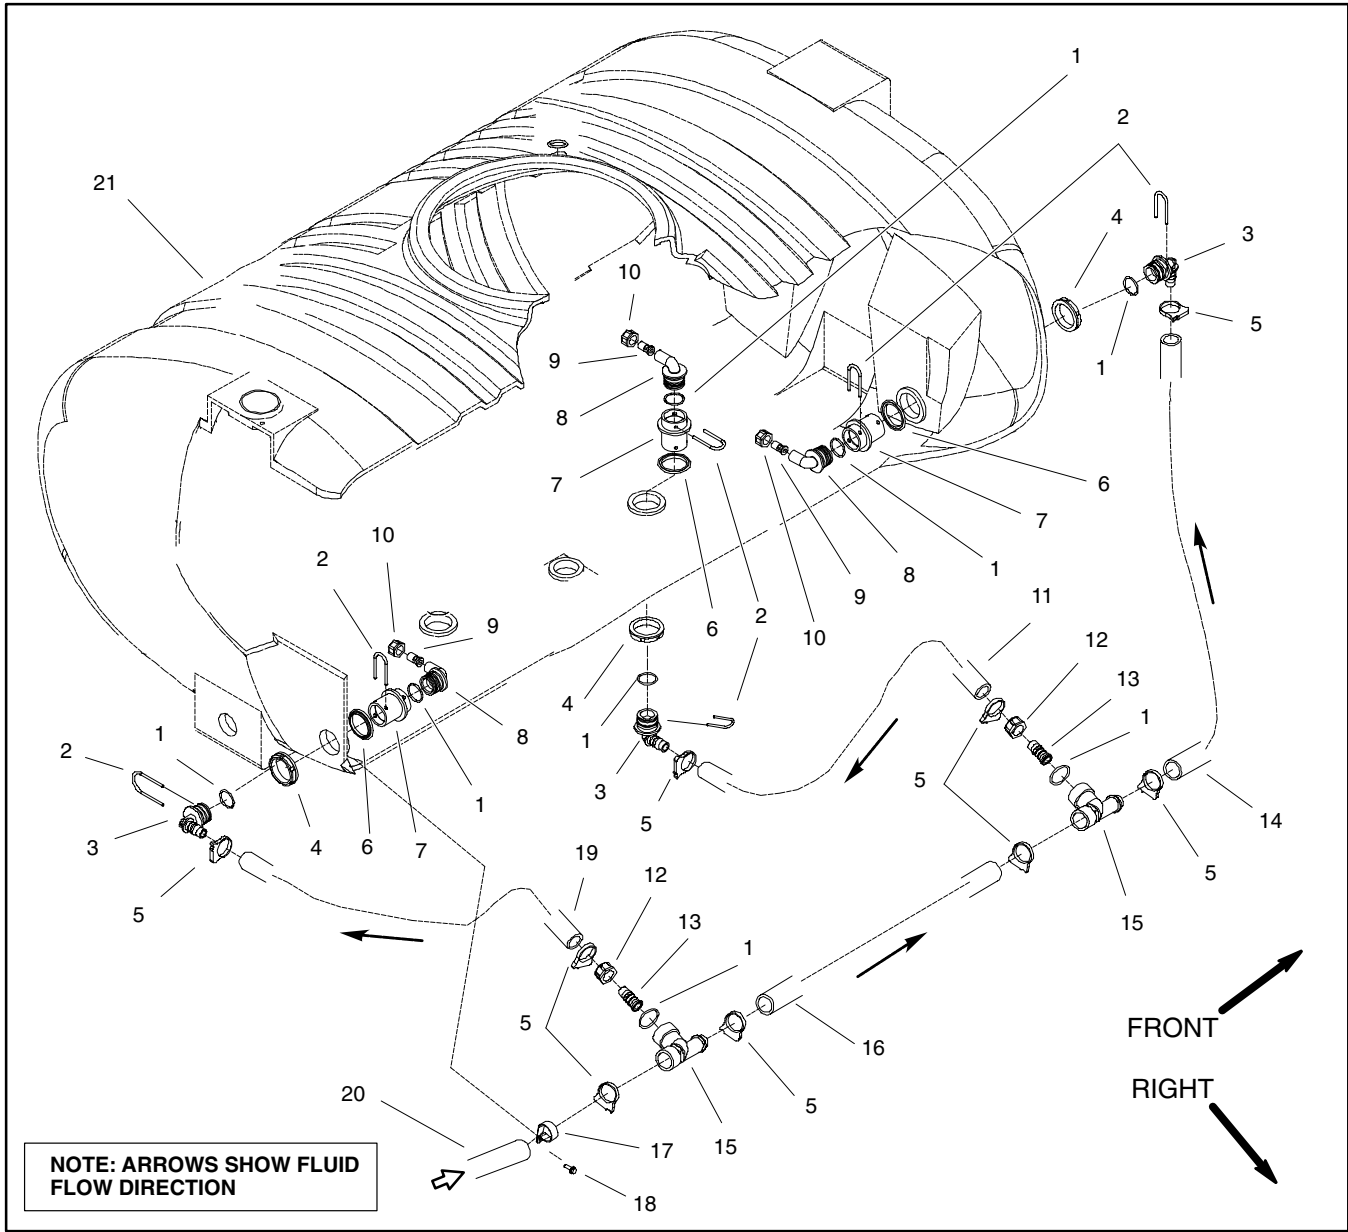

Figure 13
Disassembly (Fig. 13)
4. Remove agitation nozzles as required using Figure 13 as a guide. Discard all removed o-rings and gaskets.
Assembly (Fig. 13)
1. Install agitation nozzles using Figure 13 as a guide. Replace all removed o-rings and gaskets.